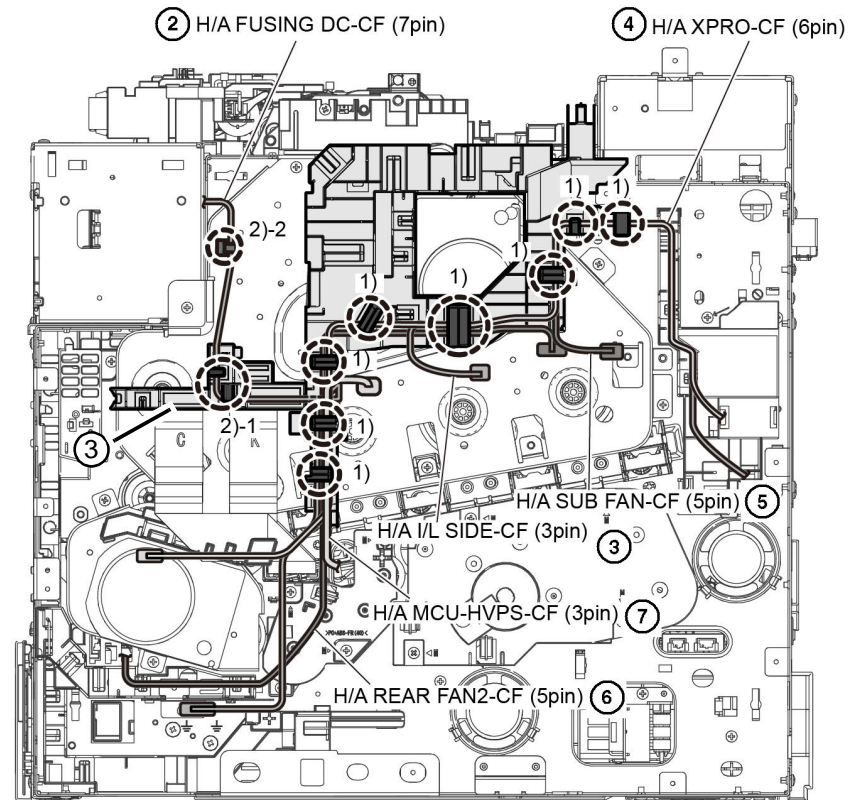

Figure 1 DC harness guide harnesses
28. Release the harnesses from the DC harness guide (1), Figure 1:
- Disconnect the DC-CF fusing harness assembly (2), (PL 18.3 Item 2 / PL 18.7 Item 2 / PL 18.11 Item 2).
- Disconnect the SIDE-CF I/L harness assembly (3), (PL 18.3 Item 5 / PL 18.7 Item 5 / PL 18.11 Item 5).
- Disconnect the XPRO-CF harness assembly (4), (PL 18.4 Item 4 / PL 18.8 Item 4 / PL 18.12 Item 4).
- Disconnect the SUB FAN-CF harness assembly (5), (PL 18.4 Item 8 / PL 18.8 Item 8 / PL 18.12 Item 8).
- Disconnect the REAR FAN2-CF harness assembly (6), (PL 18.4 Item 9 / PL 18.8 Item 9 / PL 18.12 Item 9).
- Release the MCU-HVPS-CGF harness assembly (7), (PL 18.2 Item 9 / PL 18.6 Item 9).
- Release the DC-CF fusing harness assembly (1) from the rear I/L harness guide (2-1), (PL 18.3 Item 11 / PL 18.7 Item 11 / PL 18.11 Item 11), then release the push tie (2-2) from the main H drive assembly (3) (PL 3.1 Item 1).